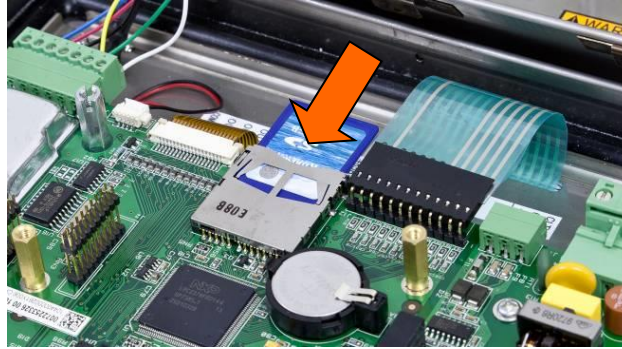

Figure 5-7: Inserting the SD Memory Card
1. Remove power from the indicator and insert the SD memory card if not already installed. Refer to Figure 5-7 for location of SD memory card.